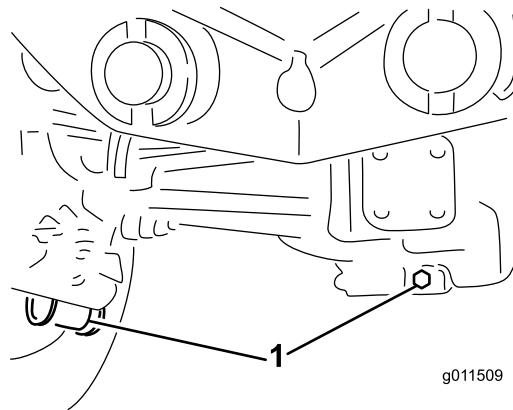

Figure 74
2. Clean the area around the 3 drain plugs; 1 on each end and 1 in the center (Figure 74).